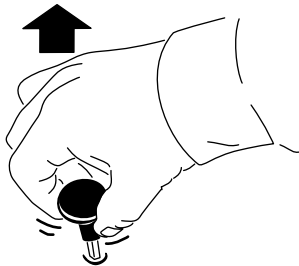

Figure 12
- Pull out the switch (Figure 12) to engage the PTO or enable the attachment (depending on your attachment setup)